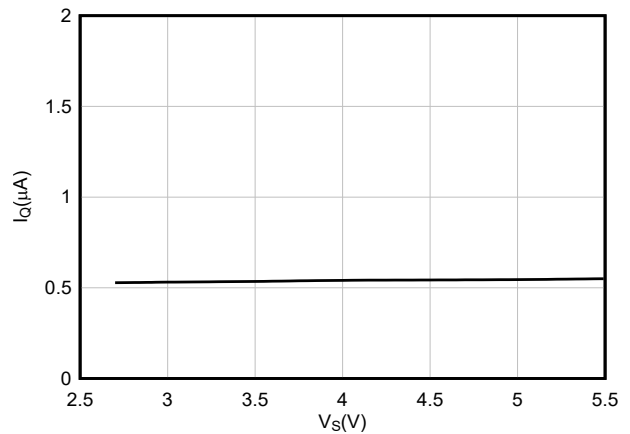

Figure 7-10. Shutdown Quiescent Current vs Supply Voltage
8.4.1 Shutdown Mode (SD)
The TMP411 shutdown mode saves maximum power by shutting down all device circuitry other than the serial interface, which reduces current consumption to typically less than 3µA; see Figure 7-10. Shutdown mode is enabled when the shutdown bit (SD) of the Configuration Register is configured 1'b. Once programmed, the device enters the shutdown mode immediately and stops any current temperature conversion. If the shutdown mode is entered during local temperature conversion, no update to local/remote temperature result occurs. If the shutdown mode is entered during remote temperature conversion, no update to the remote temperature result occurs, but the local temperature result is updated since the local temperature conversion is already completed. When the shutdown bit (SD) is configured to 0'b, the device remains in continuous conversion state.